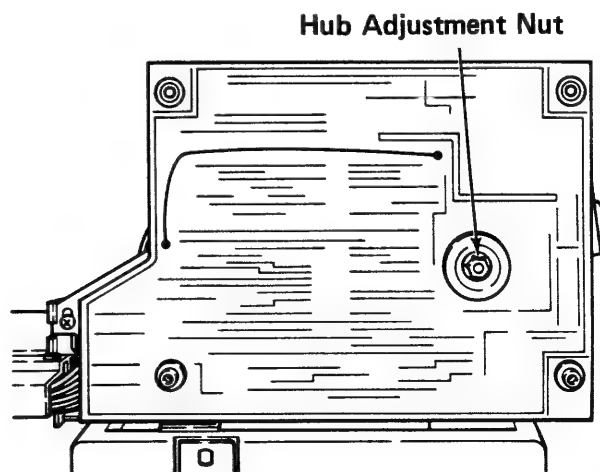

Figure 3-4A
15. Release the Reset Button and while pressing against the Drive Belt of the Film Reverse Motor (M1), turn the Hub Adjustment Nut clockwise to pull the Drive Hub in or counterclockwise to push the hub out (Figure 3-4A).